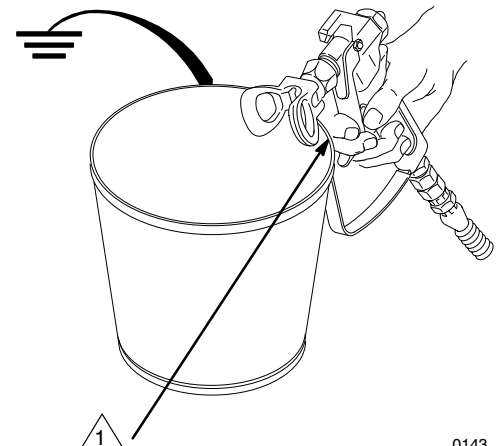

Fig. 7
7. Hold a metal part of the gun firmly against a metal waste container. See Fig. 7. Hold the trigger open, turn on the sprayer, and slowly increase the pressure just until the sprayer starts. Keep the gun triggered until all air is forced out of the system and the solvent flows freely from the gun. Release the trigger and engage the gun safety latch.